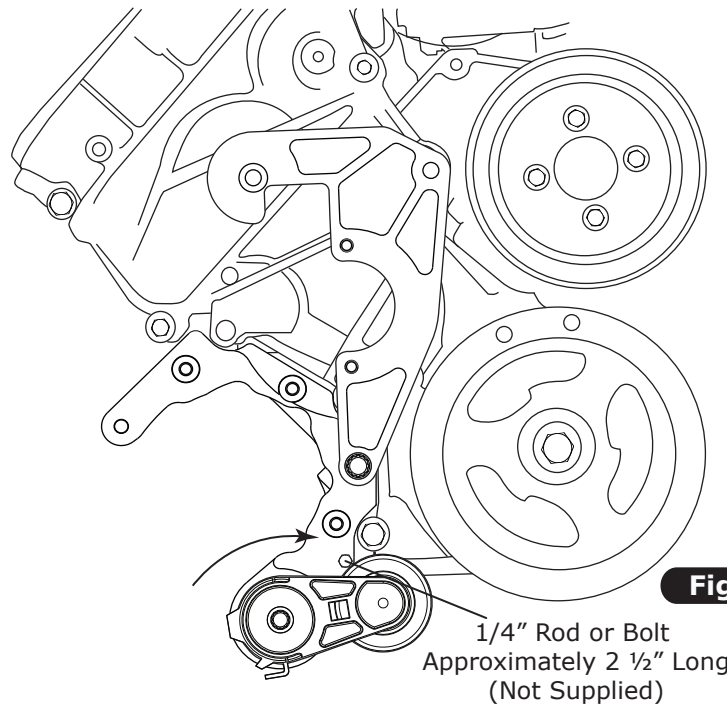

Figure 8
2. Spring back belt tensioner and lock in place using 1/4-20 bolt (See Figure 8, below).